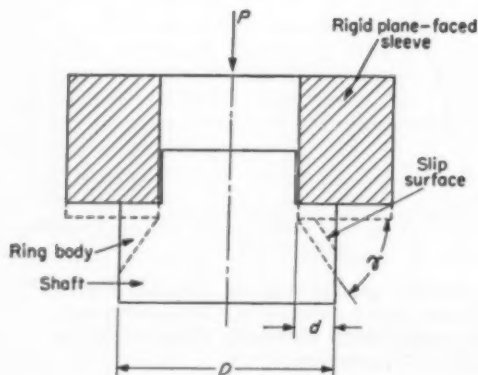

Fig. 4—Left — Simplified groove assembly for analysis of wall strength. Loading is accomplished through plane-faced sleeve.
**Groove Strength Analysis:** Consider, for analysis, the simplified assembly shown in Fig. 4. Basic assumptions for this case are: (1) deformation or
Thus, if either  $\mu$  or  $\gamma$  are known, the other unknown quantity can be readily calculated from Equation 2. For 2024-T4 aluminum, slip or shear angle of the groove construction shown in Fig. 4 is approximately 60 deg, Fig. 3. From Equation 2, then, the coefficient of internal friction is approximately 0.58.
When the thrust load is not increased up to the value determined by maximum shear strength of the material, but only up to the yield strength in shear,  $\kappa$ , it can be concluded that deflection is purely elastic because at no point on the groove wall is the yield strength of the material in shear exceeded. Also, the relationship of proportional limit load for the groove wall to ultimate load is given by the ratio,  $\kappa/\tau$ . Therefore, the expression for the proportional limit load in this specific case, Fig. 4, is